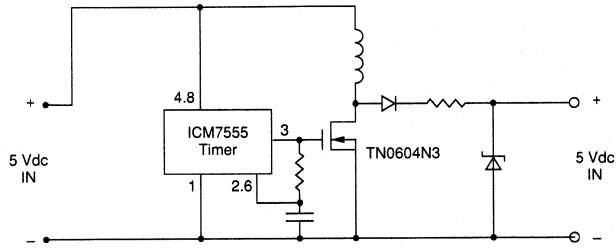

Figure 6. Charge Pump Converting 5vdc to 12vdc
- Figure 6 shows a simple charge pump converting 5vdc to 12vdc. The key parameter for efficient functioning of this circuit is $R_{DS(ON)}$ at $V_{GS} = 5$ volts.